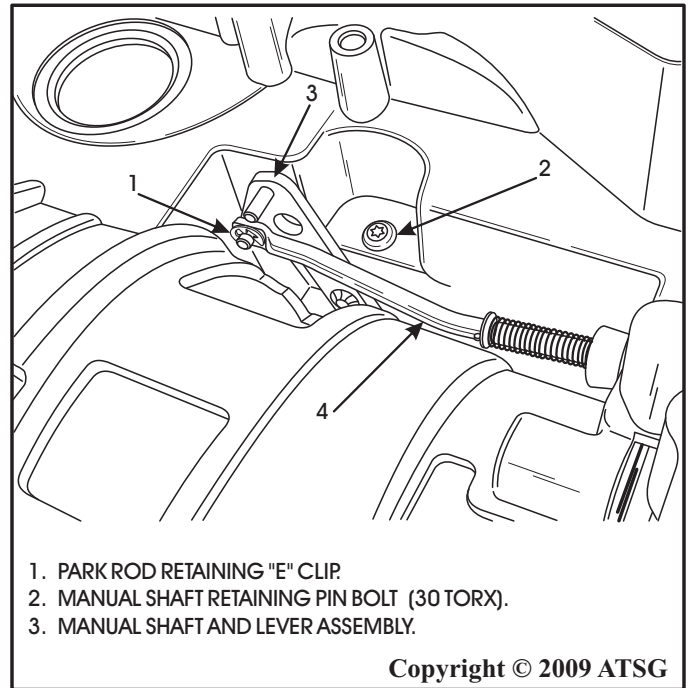

Figure 46
51. Remove the park rod retaining "E" clip from the manual lever as shown in Figures 46 & 47.
52. Remove the park rod from the transmission as shown in Figures 46 and 47.
53. Remove the manual shaft and lever assembly retaining pin bolt using a 30 Torx bit as shown in Figures 46 and 47.
54. Remove the manual shaft and lever assembly through the inside of the case. Refer to Figures 46 and 47.